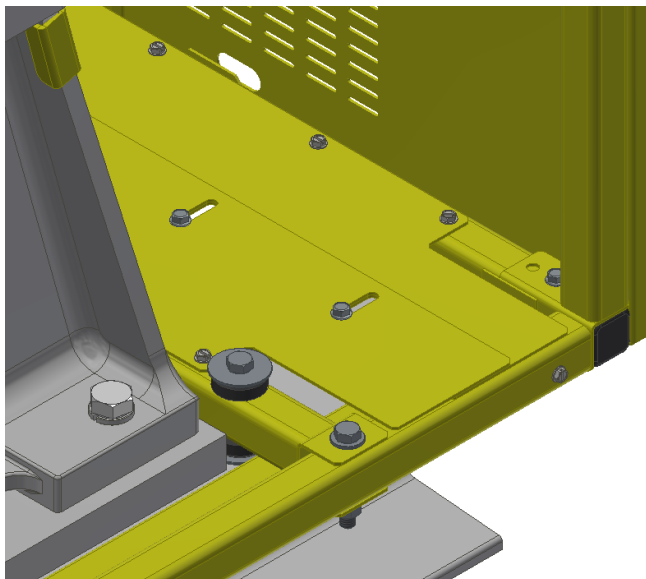

Figure 17: Machine Guard Rope Filler Panels Installed
- An assembled view of this connection is shown below (Figure 17).